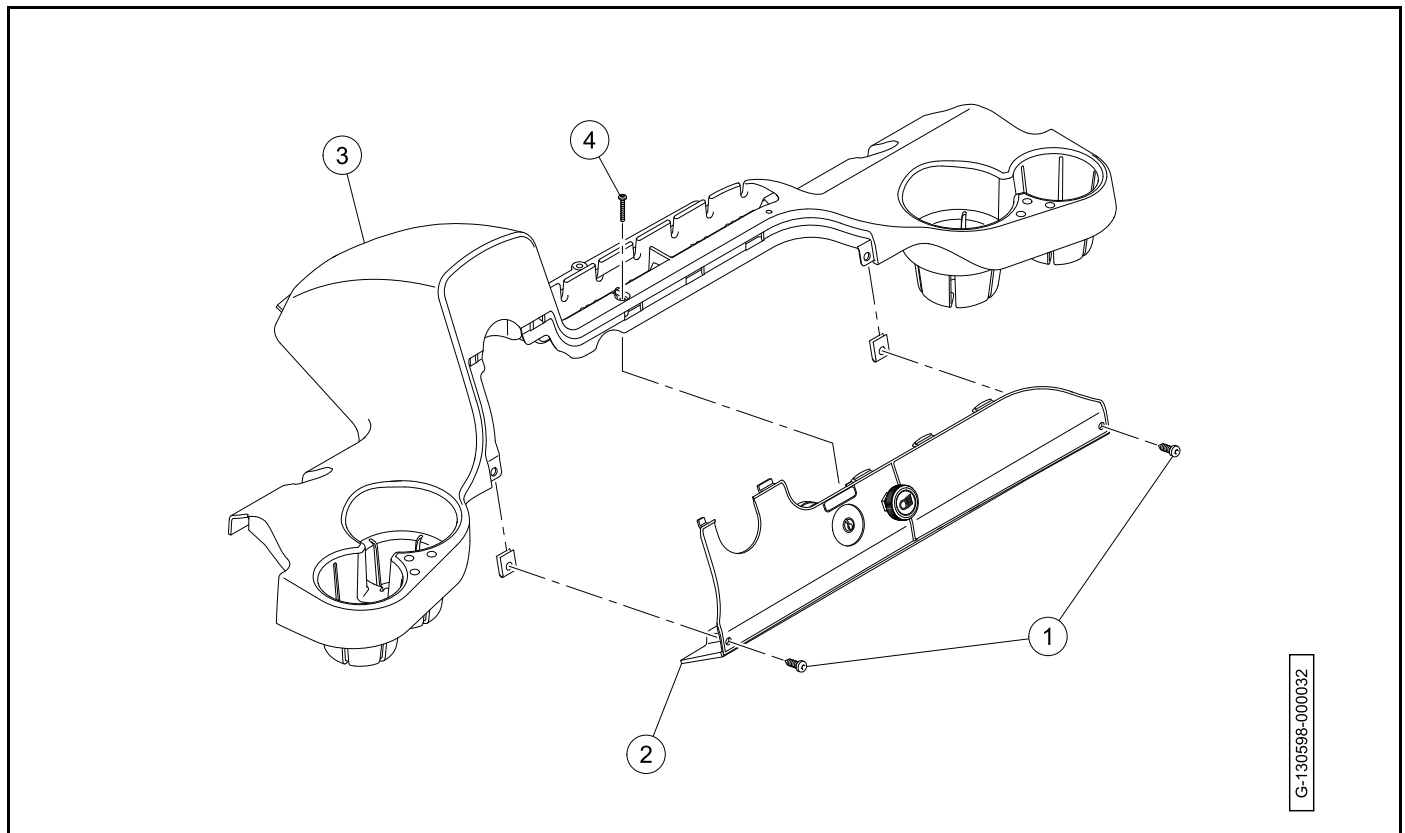

Figure 4-7 Instrument Panel
1. Remove the screws (1 and 2) (**Figure 4-7**).
2. Tilt instrument panel (3) up to release it from the dash assembly (4).
1. Connect the electrical connector on the passenger side (**Figure 4-7**).
2. Install the instrument panel (3) into the dash assembly (4). Make sure that the tabs on the instrument panel engage in the slots on the dash assembly.